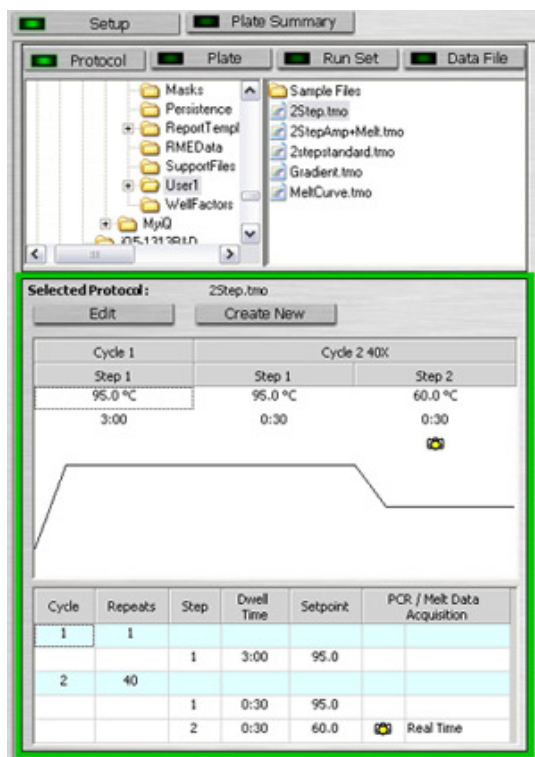

Fig. 4.13. The Protocol Selected Protocol Pane.
2. The selected protocol appears in the Selected Protocol pane (Figure 4.13).